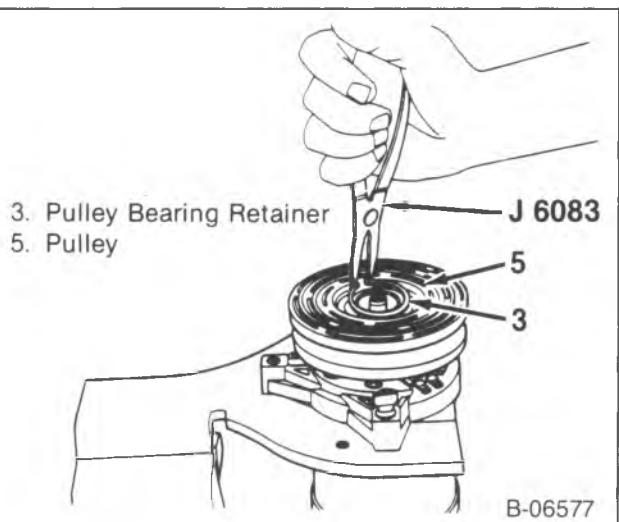
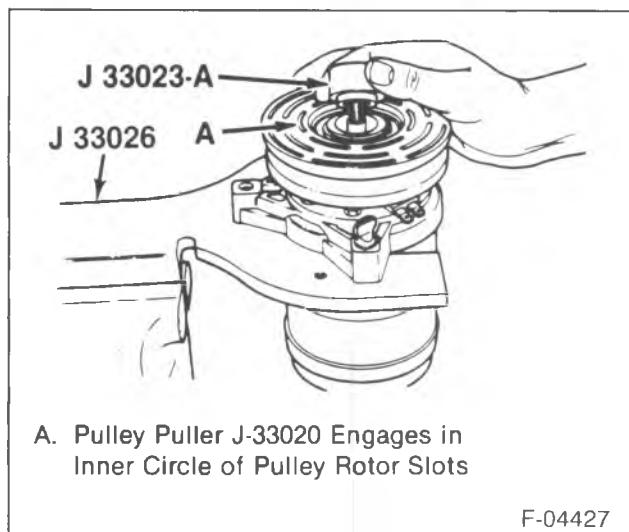

Figure 8—Removing the Pulley Rotor and Bearing Retaining Ring
Figure 9—Installing the Puller Pilot and Pulley Rotor Slot Location
1. Clutch plate and hub assembly (2).
2. Pulley bearing retainer (3) using J 6083 (figure 8).
3. Pulley (5).
- Install J 33023-A to the front head (figure 9).
4. Pulley bearing retainer (3) using J 6083 (figure 8).
5. Clutch plate and hub assembly (2).